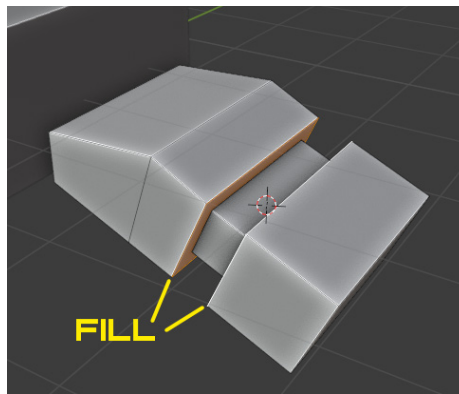

Figure 5.5 – Filling
5. Rejoin the part we separated in *step 4* with the original shape using *Ctrl + J* after selecting both objects. Also, fill the faces with *F*, as shown in *Figure 5.5*.